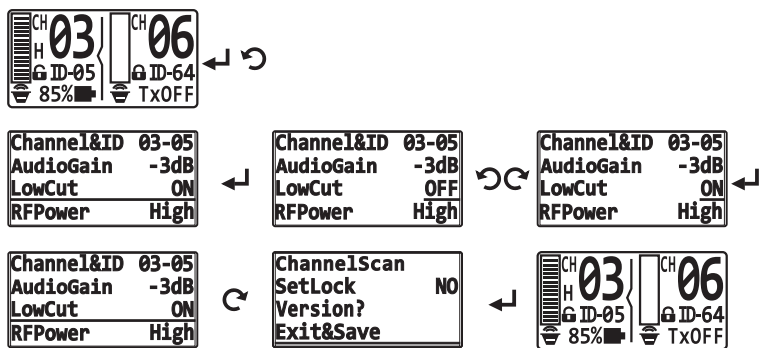

Fig. 21
5. Setting Low Cut Filter, see Fig. 21: